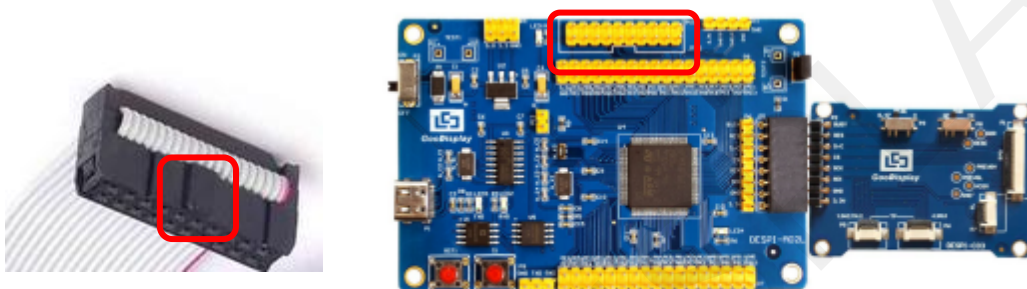

Figure 9 : Connection between JTAG and simulator
- 1) Connect the simulator to DESPI-M02's JTAG interface (align the raised part of the figure 9 simulator interface to the notch direction of the JTAG interface) and connect the computer USB port at the other end.